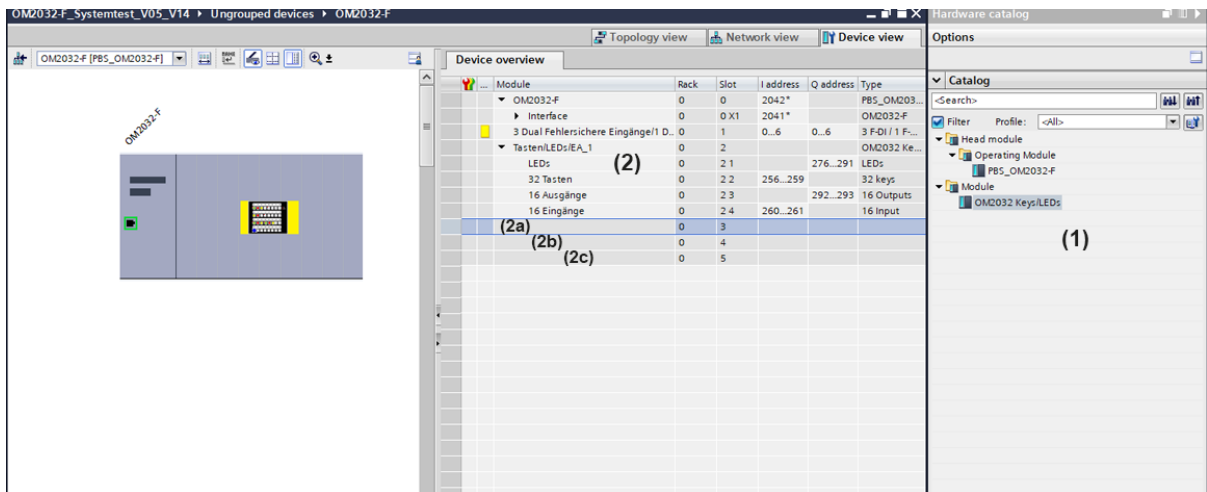

Fig. 6.3: Device overview head module connection
The device overview (Fig. 6.3) appears.
The operation module selected from the hardware catalog (1) (in Fig. 6.3 it is a head module) is displayed in area (2).